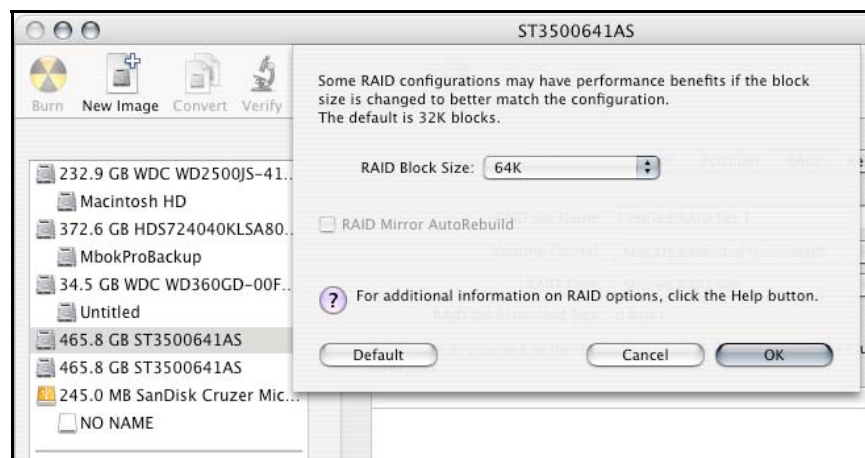

Figure 13: Selecting a RAID Block Size
9. For *Volume Format*, the most common choice is "Mac OS Extended". Note: For Mac OS X 10.4.0 and later you can select the RAID block size, for best performance select a RAID block size of 64K or 128K (Figure 13).